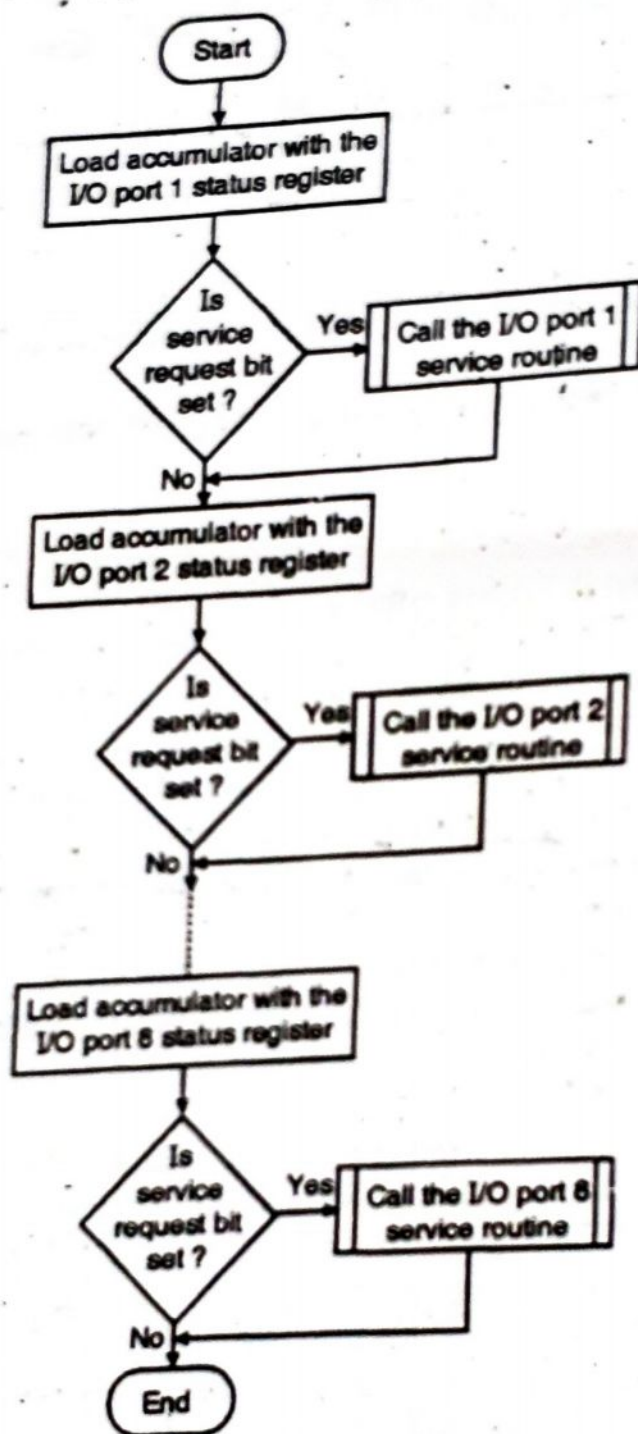

Fig 4.1.1 : Polling sequence
- The polling routine will first transfer the status of the I/O port 1 to the accumulator. It then checks the contents of accumulator to determine if the service request bit is set. If the bit is set then I/O port 1 service routine is called, otherwise the polling routine will move forward to check if port 2 is requesting service. On completion of the service to port1, the polling routine will test port2. The process is repeated till all the 8 ports are tested and all the I/O ports those are demanding service are processed. On completion of the polling routine, the microprocessor will resume with the execution of the program. Fig. 4.1.1 shows the sequence for polling routine.